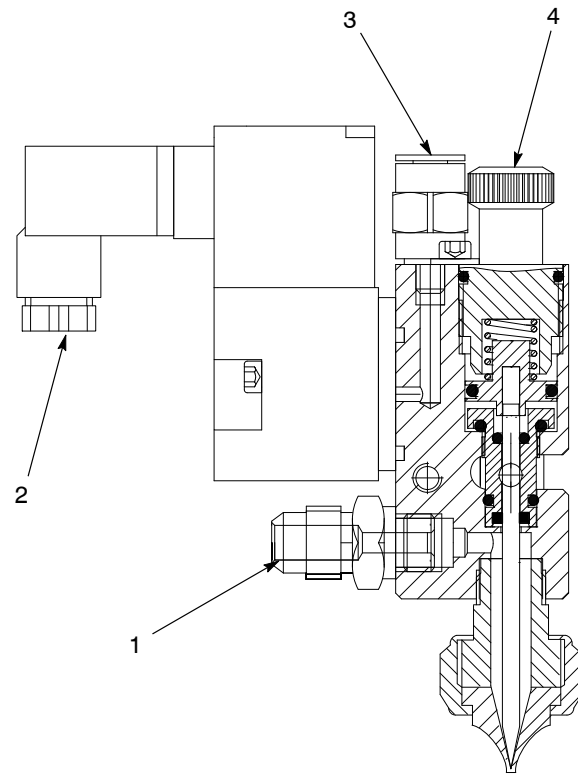

Figure 2 Connections and Adjustments
See Table 1 and Figure 2.
Use the needle adjuster (see Figure 2, (4)) to make fine adjustments in material flow. Tighten the adjuster locking screw when the adjustment is complete.